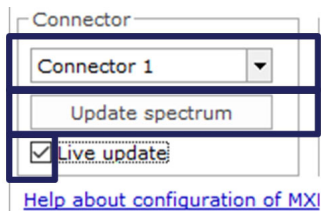

Fig. 5.9 Update Spectrum
► Change the selected connector on the connector box (Fig. 5.9).
► To update the optical spectrum press the **Update spectrum** button (Fig. 5.9).
► For a continuous update check the **Live update** tick (Fig. 5.9).